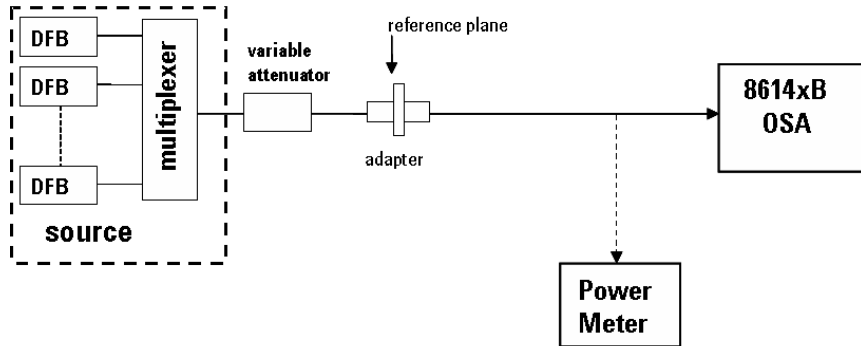

Figure 3 Reference Measurement
- 1 Connect the equipment as in Figure 3. Connect the source output and OSA input fibers at the reference plane.